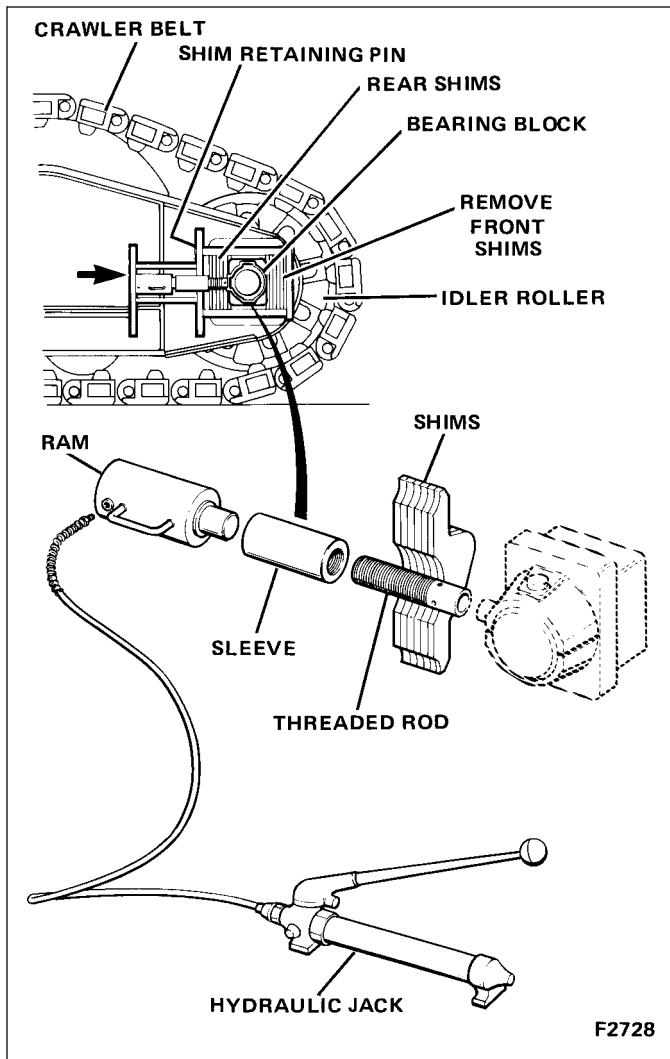

Figure 7-22. Crawler Shim Removal
6. Install the two hydraulic rams, sleeves and threaded rods, supplied in the mining shovel tool kit, (see Figure 7-22) on each side of the crawler frame. Using the rams, apply equal force to each end to move the idler shaft forward until the rear set of
1. Remove the cotter pin and shim retaining pin, one on each side of the idler assembly (Figure 7-22).
2. Remove the forward set of shims and install the hydraulic ram, sleeve and threaded rod supplied with the mining shovel (see Figure 7-22), on each side of the idler assembly.